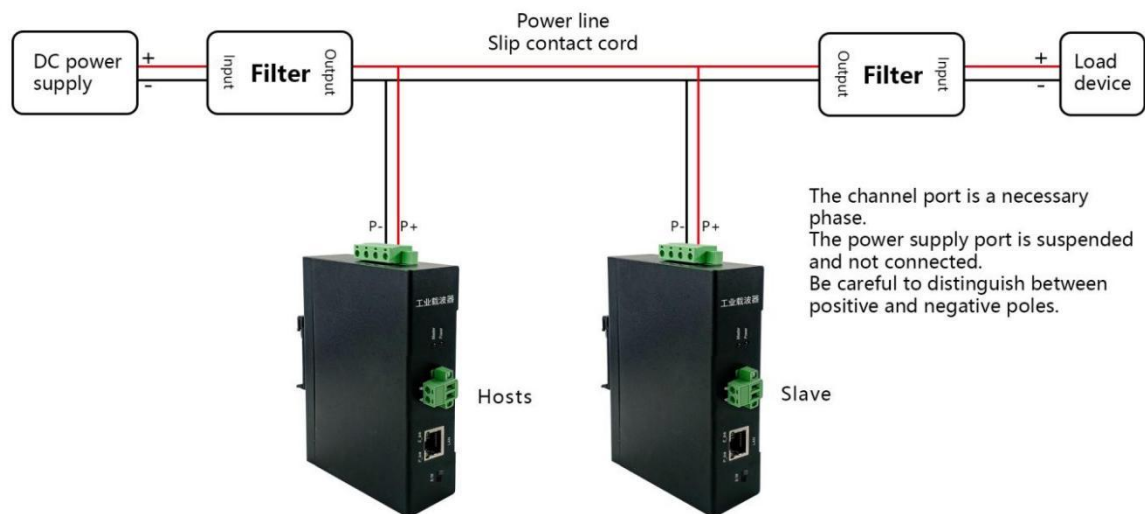

Figure 2
**2、 External filter wiring method: Load is greater than 5A, the power line requires a series filter at both ends, channel port P+, P- are parallel to the power line, need to distinguish between positive and negative poles.The power supply port is suspended and not connected.Wiring diagram, as shown in figure 2:**